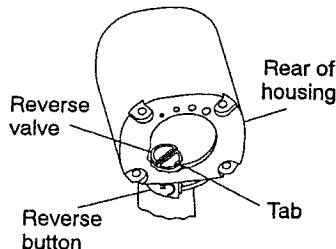

Figure 15
**If the tab on the reverse Valve has been rotated to the right, install the left Button. See Figure 15.**